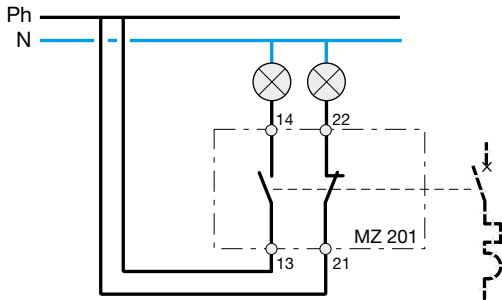

Fig. 9
**Auxiliary Contact MZ201 (Fig 9)**